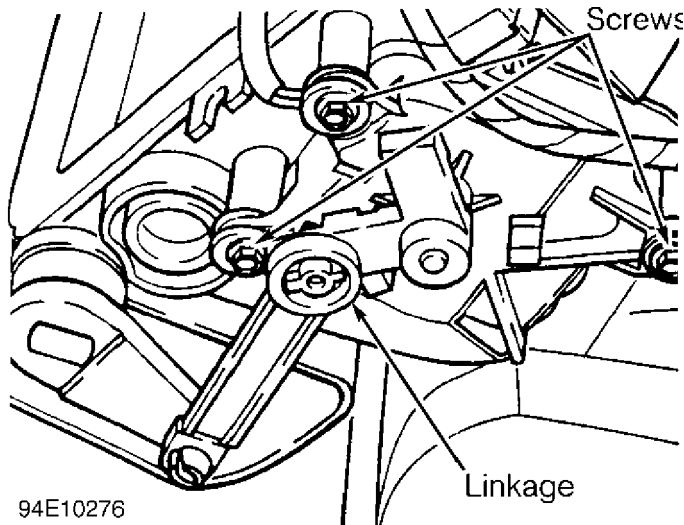

Fig. 6: Removing Central Air Distribution Flap Motor (90 CS)
2) To remove central air distribution flap motor, disconnect wiring harness Black connector and linkage at motor. See Fig. 6.